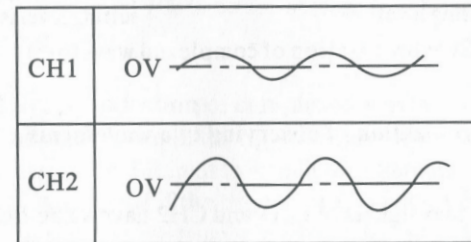

Fig.2
When either the Ch1 or CH2 input signal is smaller as shwonin Fig.2, adjust the VOLTS/DIV switches (13) and (14) to obtain sufficient amplitudes.